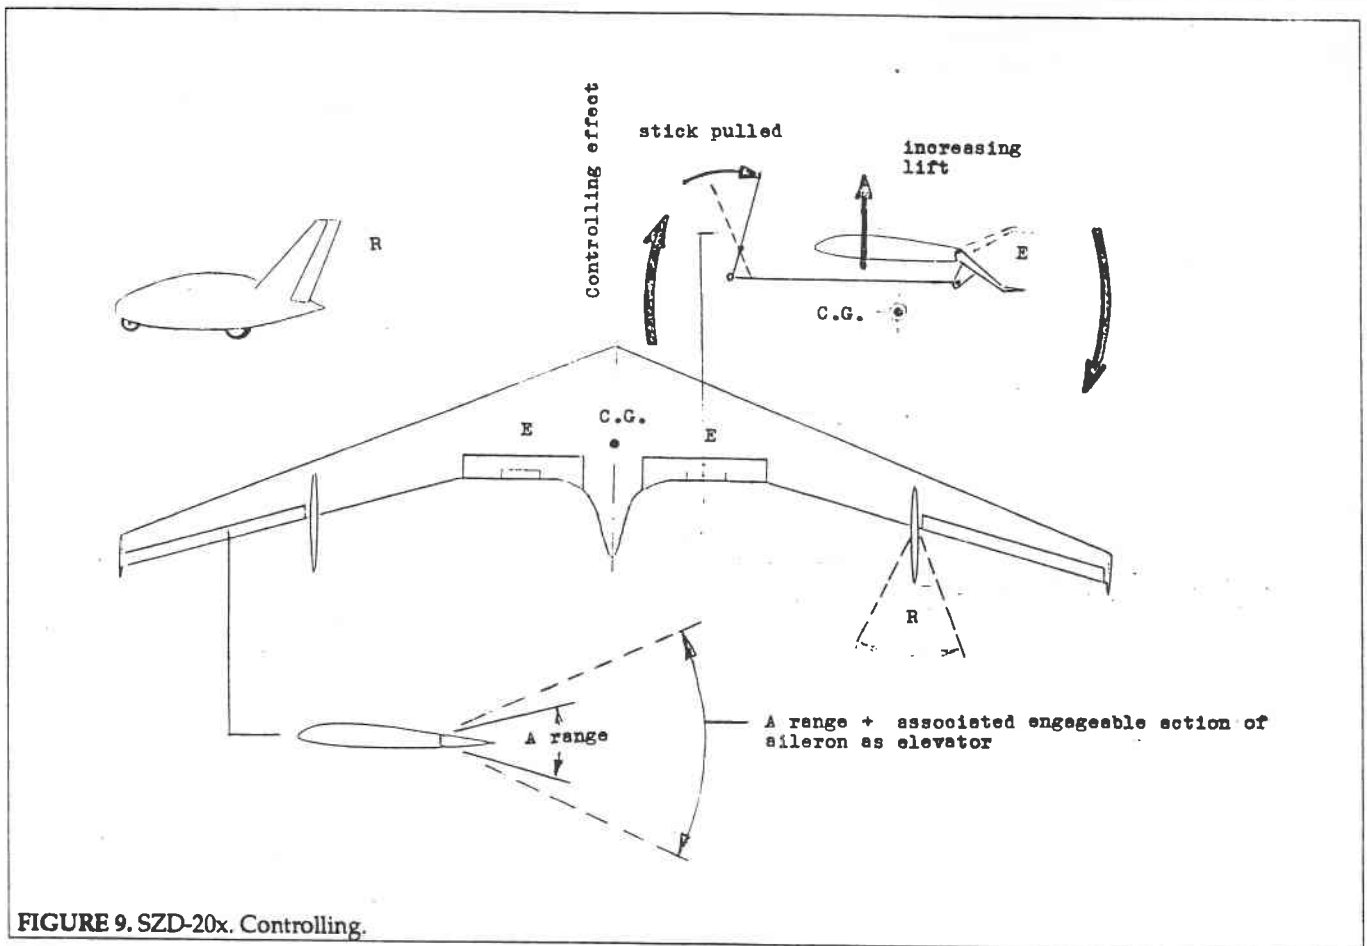

FIGURE 9. SZD-20x. Controlling.
- Inverted elevator deflection when compared with standard sailplanes. With the stick pulled back, the elevator is deflected downwards but the glider response is correct i.e. the fuselage nose lifts above the horizon (Figure 9).